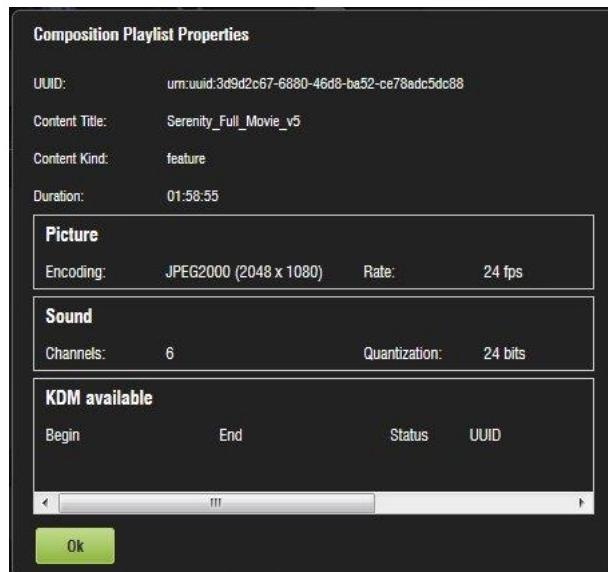

Figure 236: CPL Properties
- The Composition Playlist Properties window will appear (Figure 236).